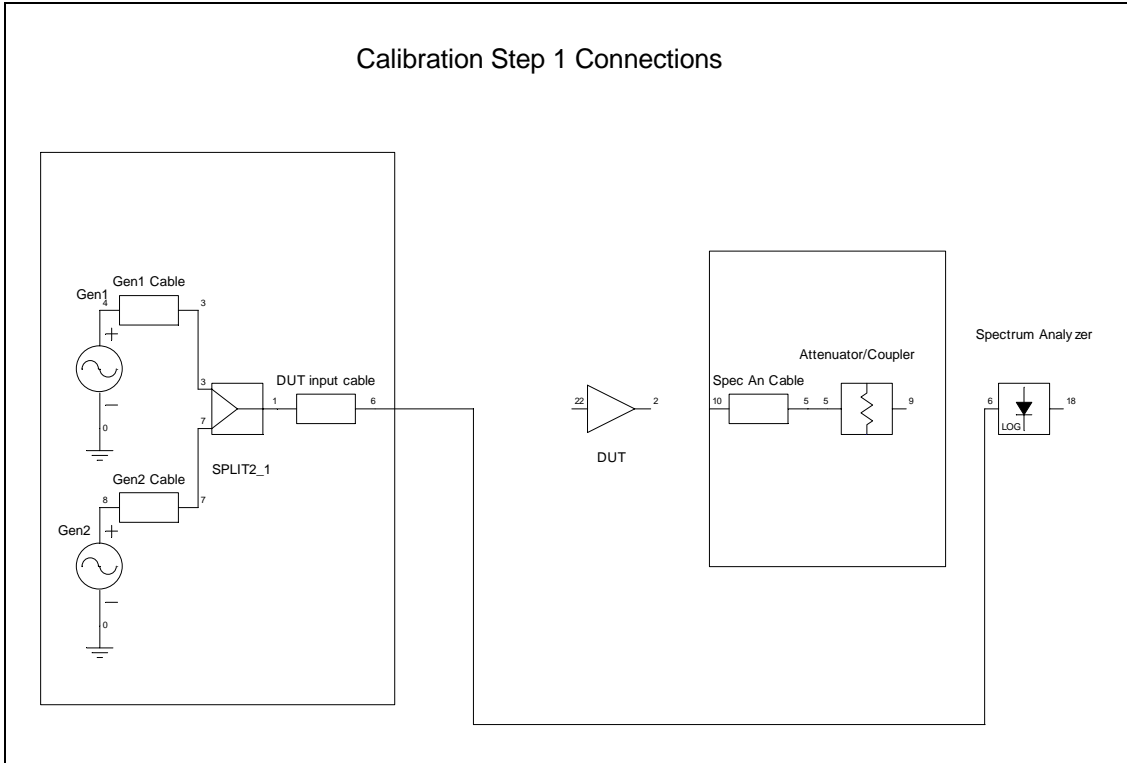
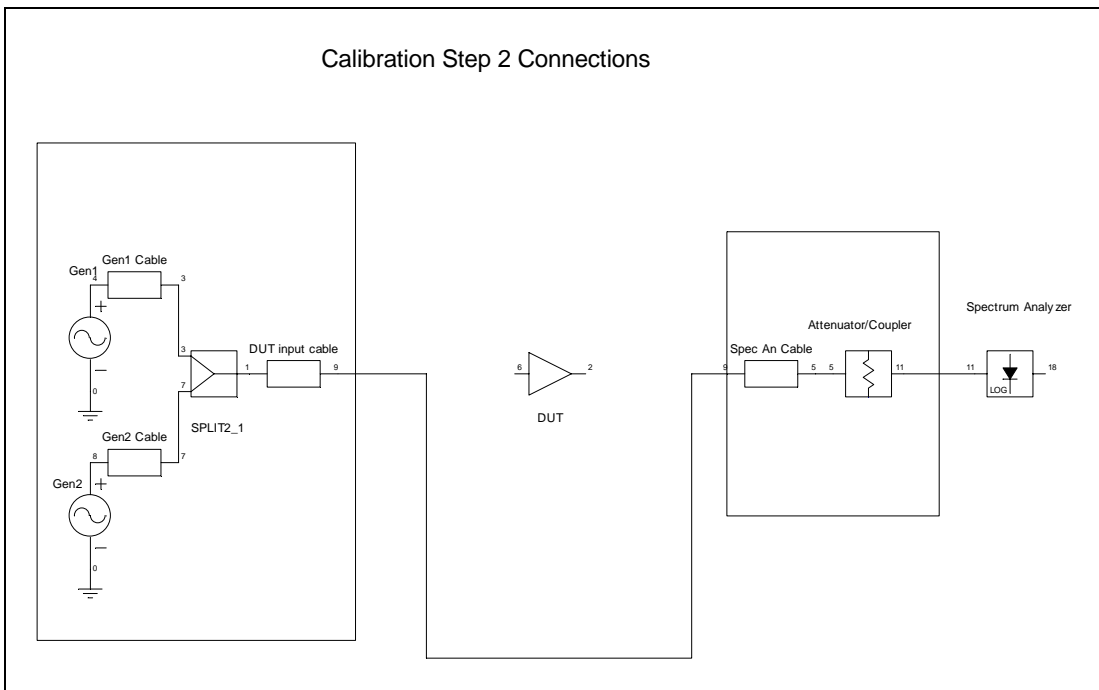

Figure 5: calibration step 1
Figure 6: calibration step 2
1. The user connects the cable that normally goes to the DUT input directly to the spectrum analyzer input. The software sweeps the generators across the whole frequency range of the test to be run in order to determine the “gains” in the power combiner and the cables², and for any offset in the signal generator output levels. See Figure 5.
2. The user next connects the spectrum analyzer input “network” which will consist of a cable and perhaps an attenuator or directional coupler. The software again sweeps the generators across the frequency range of interest (at this point they’ve been calibrated to be approximately equal), measuring the “gain” of the path between the DUT output and the spectrum analyzer. See Figure 6
4. Follow the prompts, connecting the equipment as specified BEFORE hitting "OK". The setup connections for the first and second prompts are shown in Figure 5 and Figure 6 respectively (they are also described in the dialogs). **Important note: as of the time that this document was written, the power level that is used for calibration (delivered to the spectrum analyzer input) is hard coded to -20 dBm. This was chosen as a compromise. Specifically most generators + splitter losses + attenuators at the input of the analyzer would still allow – 20 dBm to be delivered without hitting the upper limit of most signal generators output power range. This may be made an option later, but to keep things simple and accommodate most cases, this level was chosen.**
6. As a sanity check you can verify the calibration (or see how good it is) by leaving the setup configured as is shown in Figure 6, then running a test (with an appropriate power level set, perhaps much less than you intend to run with a high gain DUT). There certainly shouldn't be any distortion, but you can see how flat the gain is. I did this in my setup while preparing this document; the results are shown in Figure 9. It is impossible to replace a network analyzer (easily) with a spectrum analyzer and generator setup like this, but having the gain measurements and a calibration capability helps to better capture the context of the measurements and will improve consistency.